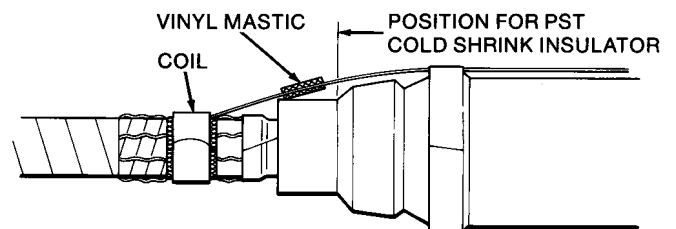

Figure 10
*NOTE: Be certain #24 Tape and shield strap coil are wrapped in the same direction and that the coil is centered within the edges of the #24 Tape. Pull (to unwrap) the coil around the cable and rewrap around #24 Tape and itself. Figure 10.*
- b. After removing liner, place one vinyl mastic pad under strap, mastic side toward strap and centered over the splice body end cap. Place a second pad over the strap and first pad. Press together, mastic to mastic, forming a sandwich. Figure 10. (This will be overwrapped with #13 Tape.)